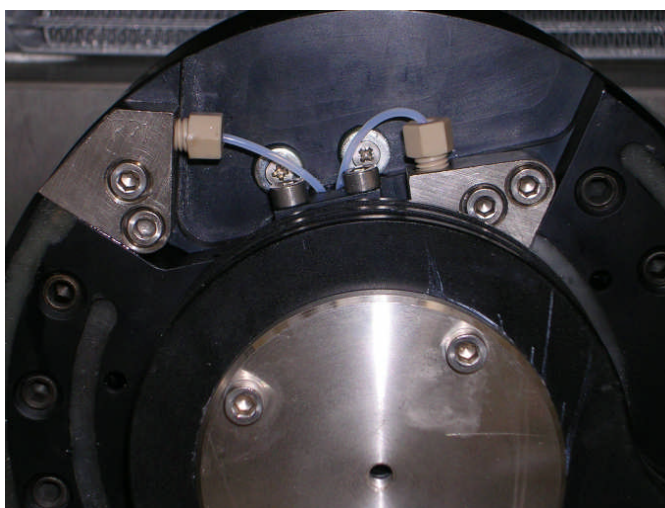

Figure 3 Front view of Spectrum Bobbin showing a pair of stainless steel connector blocks
1) The flying lead connections are on the front of each bobbin. Rotate a bobbin so that the appropriate connections (analytical or preparative see Figure 3) are easily accessible.
- 5) Using an 8mm or 5/16" open ended spanner to unscrew the light brown screw fittings from the stainless steel connection blocks see Figure 3.
- 14) Gently pull the tapered ends of the leads to remove any slack between the connection blocks and the hole into which the leads have been pushed, see Figure 3. Fit the black circular external flying lead clamp.
- 21) Gently pull the tapered ends of the leads to remove any slack between the connection blocks and the hole into which the leads have been pushed, see Figure 3. Fit the black circular external flying lead clamp.